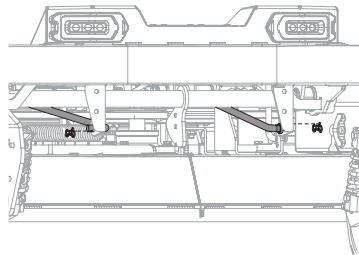

Figure 49
6. Remove the two bow-tie pins from the deck rods that secure the front center lift link brackets on the frame to the front-center lift brackets on the deck and pull the front end of the rods out of place. See Figure 49.